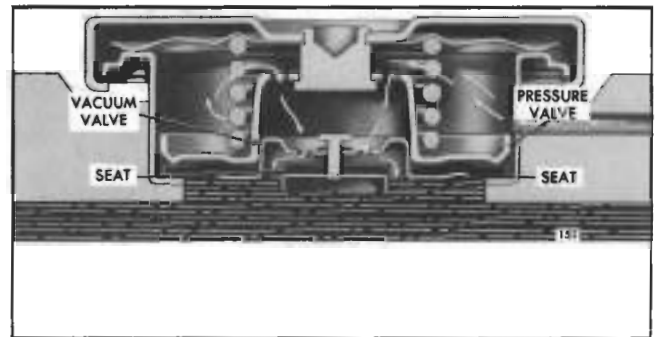
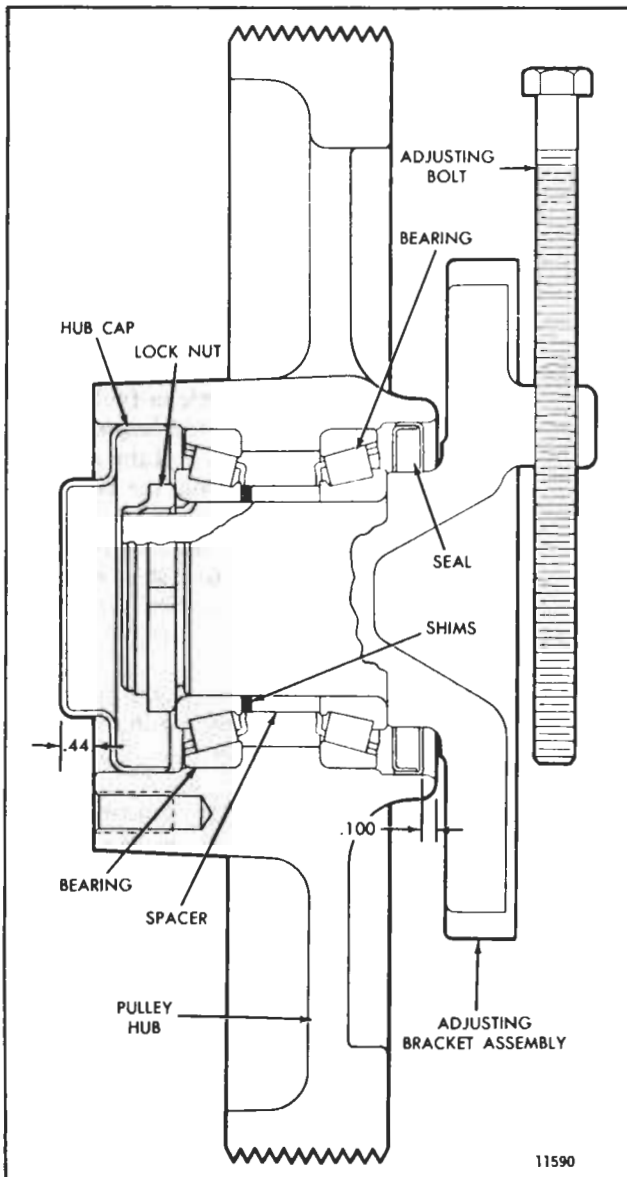

Fig. 2 - Pressure Control Cap (Vacuum Valve Open)
Fig. 4 - Typical 16V Engine Poly-V Groove Pulley Hub and Adjusting Bracket
The three groove pulley hub (Fig. 2), used on 6V, 8V and certain 16V engines, turns on a double-row ball bearing at the front and a single-row (shielded) ball bearing at the rear of the hub. On 6V and 8V compact front end engines, the pulley hub turns on tapered roller bearings (Fig. 3). The Poly-V groove pulley hub used on some 16V engines turns on two single-row tapered roller bearings (Fig. 4).
3. Press a new oil seal in .100" from the end of the pulley hub (Fig. 4).
11. Fill a new hub cap 75% (minimum) full of grease and install it in the pulley hub (Fig. 4).